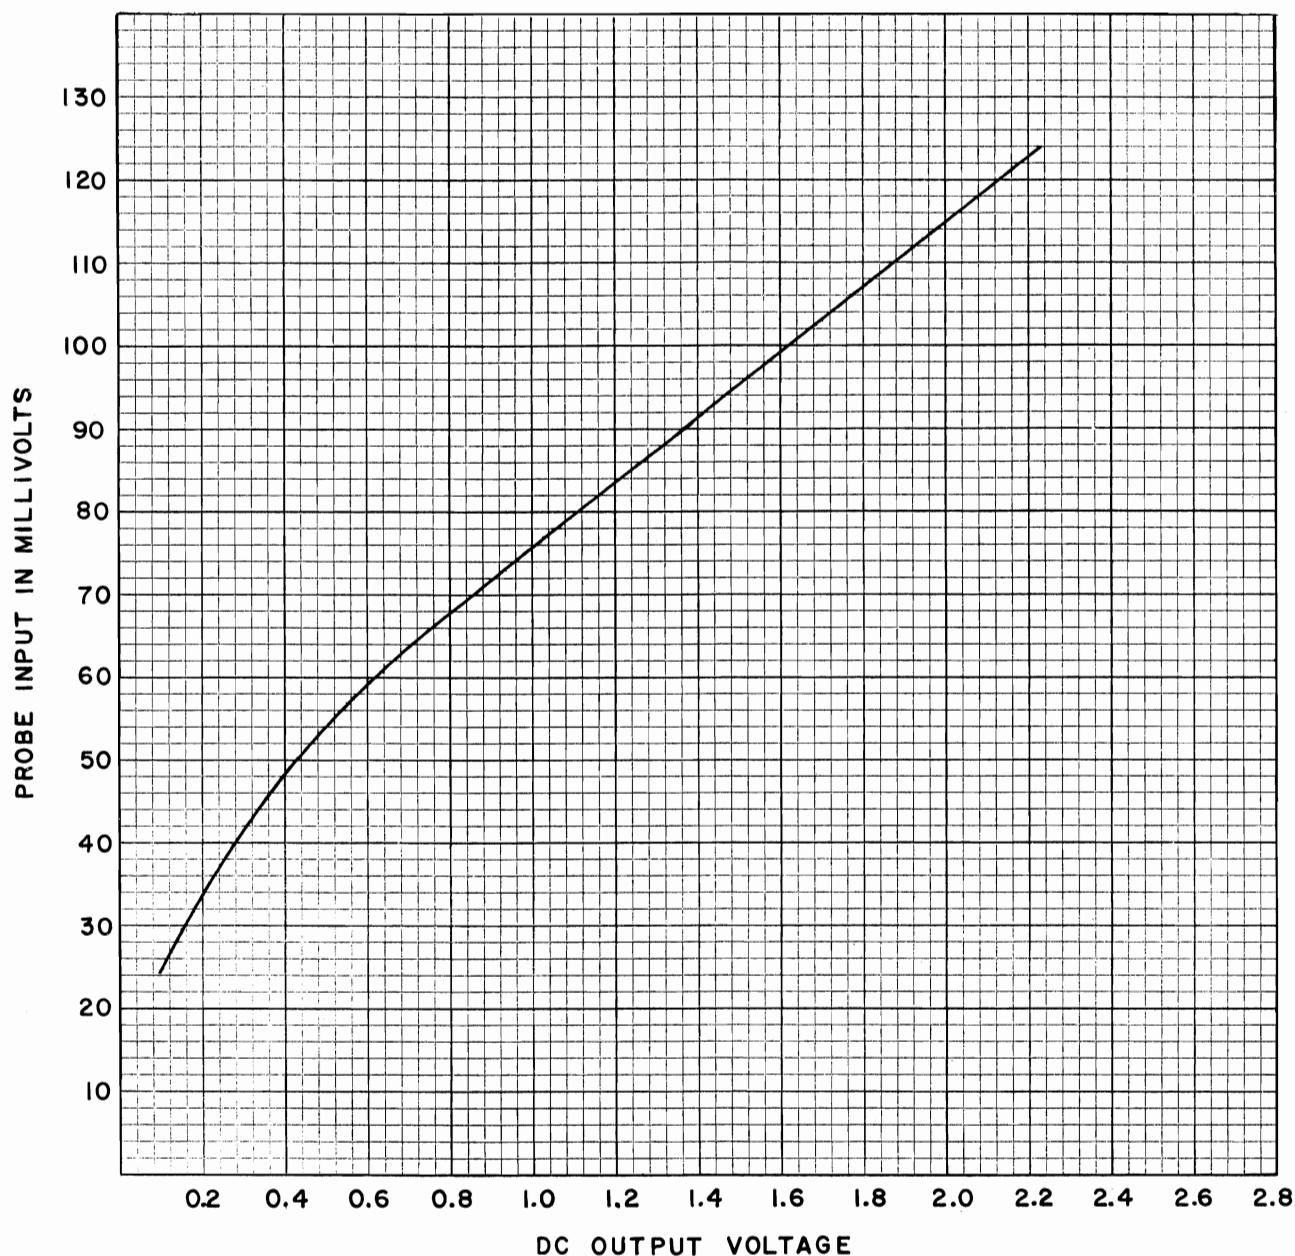

Figure 4 - Typical Calibration Curve for RF Probe
5. Increase the signal generator output in 1/10-volt steps and record the millivolt readings. The readings can be plotted on graph paper as shown in Figure 4.